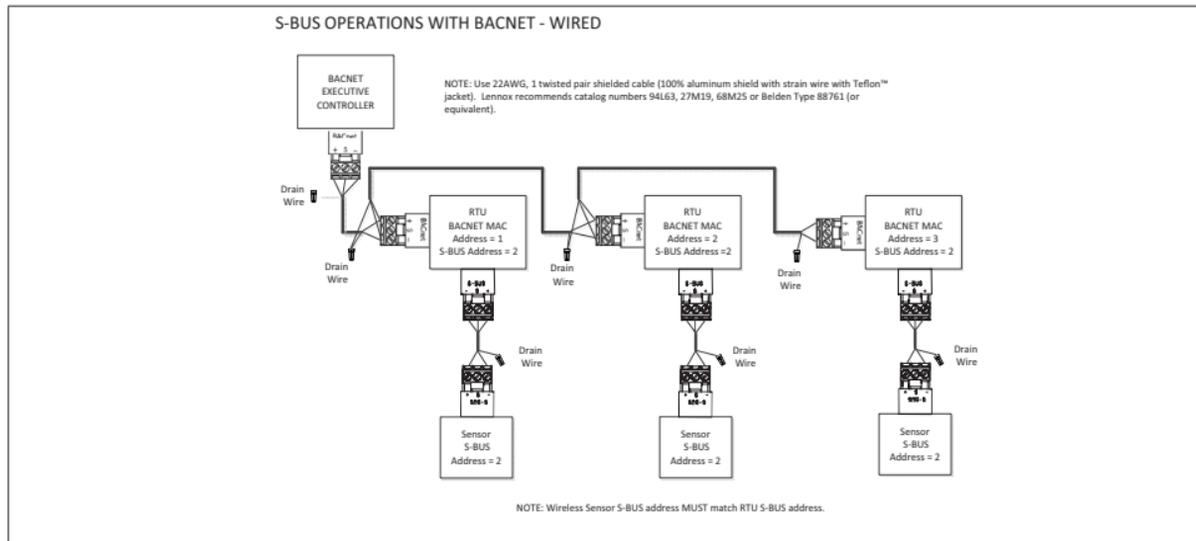

Figure 9. BACnet Wiring Configuration
See Figure 9. BACnet Wiring Configuration for a wiring example.
6. Connect sensor and RTU controller using recommended wire (two conductor, twisted-pair, shielded, 22AWG). See Figure 9. BACnet Wiring Configuration on page 12 for a wiring example.